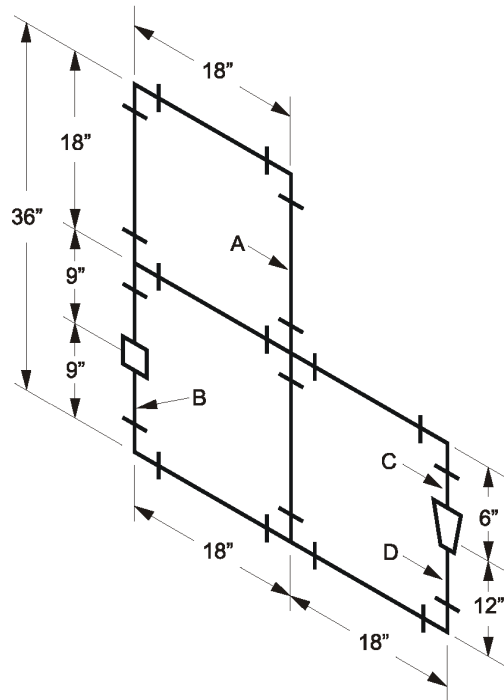

Figure 3-3. Determine the length of the pipes A, B, C, and D.
- 8. Calculate the length of pipes to cut in Figure 3-3. The NPS of the pipes is 2 inches.